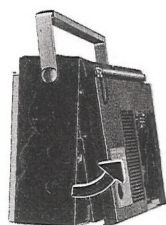

Fig. 2
5. Remove cabinet cover in direction of arrow, as illustrated in fig. 2.